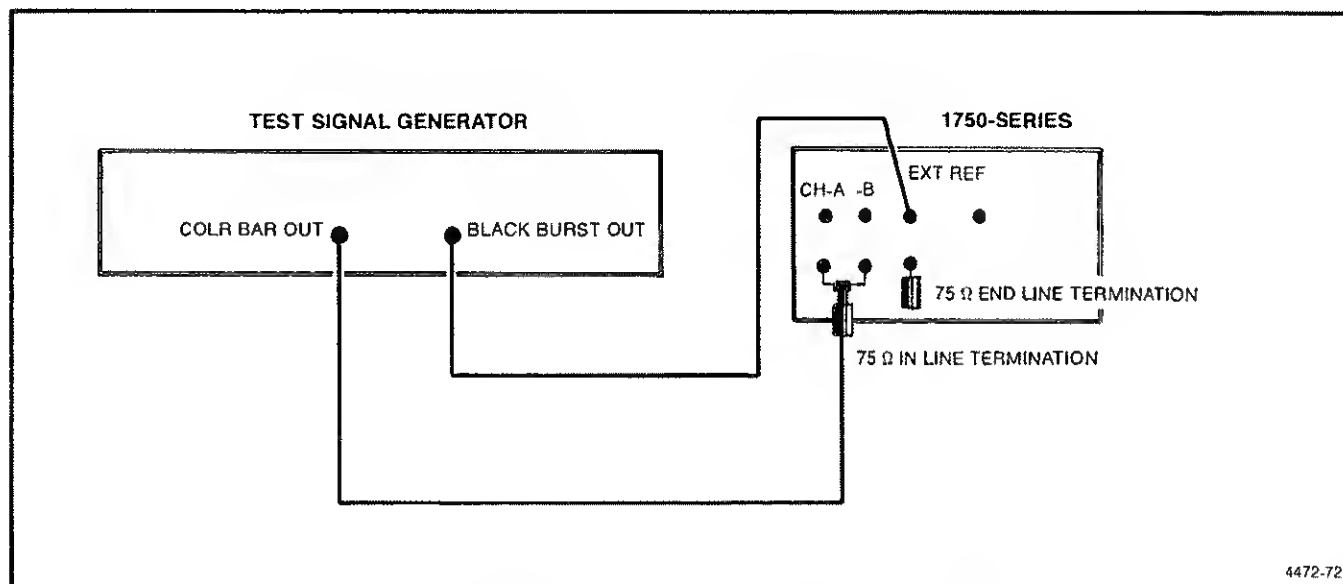

Fig. 5-5. Driving both CH-A and CH-B INPUTs with Color Bar signal.
a. See Fig. 5-5. Connect the Color Bar through a 75  $\Omega$  coaxial cable, a 75  $\Omega$  feedthrough terminator, and a dual input coupler to the CH-A INPUT and CH-B INPUT. Connect the Black Burst signal to the EXT REF LOOP-THRU. Select EXT REF. Display the Color Bars of INPUTs A and B alternately with the VECTOR display.